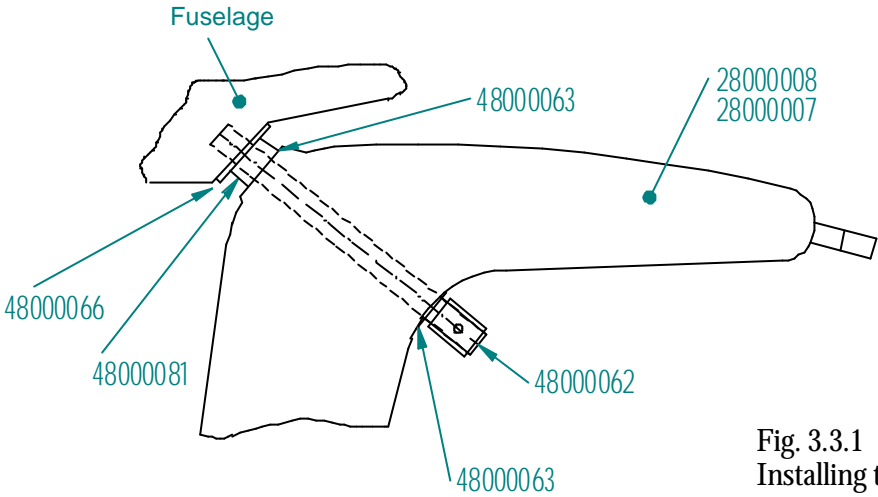

Fig. 3.3.1
5. Adjust the position of the landing-gear strut with thrust washers no. 48000066 and spacer bushing no. 48000081 so that the strut can be retracted and extended without much force (see fig. 3.3.1).